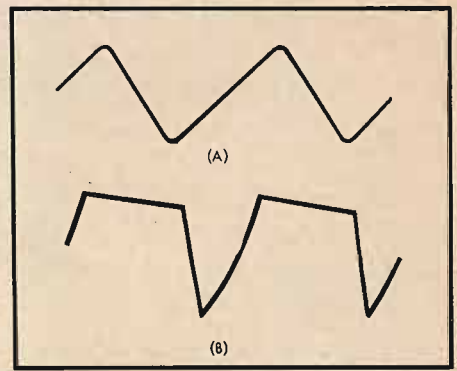

Fig. 7. Waveshape at (A) is that given by the generators proper. The shape at (B) has higher harmonic content and is obtained by differentiation.
and therefore takes the waveform of a sawtooth, as illustrated at (A) in Fig. 7. As can be seen, the flyback time of the sawtooth is quite large—at least 20 per cent—and the harmonic content is not very great. This was a fault in earlier models and made it impossible to secure any really bright tone qualities or, indeed, to have any really satisfactory variety of tone colors. In addition, the high-impedance key-switch system had to be of the slunt type because of leakage through the capacitance of open switches.
be seen in the resulting waveform of (B) in Fig. 7. With this improvement, the new models have very satisfactorily bright and interesting reeds and strings and a very good variety of colors. The second function, incidental but useful, is in voicing. By selection of the capacitor elements of the differentiators, the overall level of the higher notes is made greater than that of the lower ones. When all tones are passed through the later formant filters which are mostly of the low-pass type, the total scale tends to have more even loudness from top to bottom than if all incoming tones to the filters were of the same level. This is the same job done in the Baldwin organ by networks between octaves in the keying bus outputs and in the Schober Organ Kits by varying-value resistors in series with each key switch.